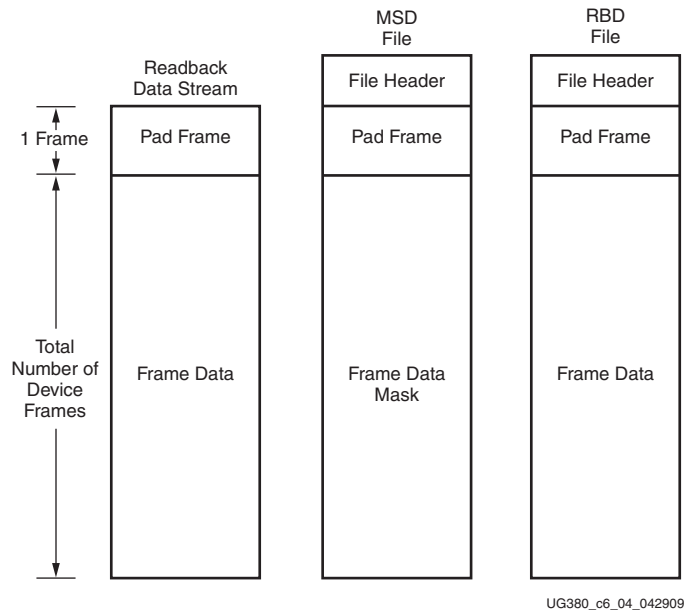

Figure 6-4: Comparing Readback Data Using the MSD and RBD Files
1. Compare readback data to the **RBD golden** readback file. Mask by using the **MSD** file (see Figure 6-4).